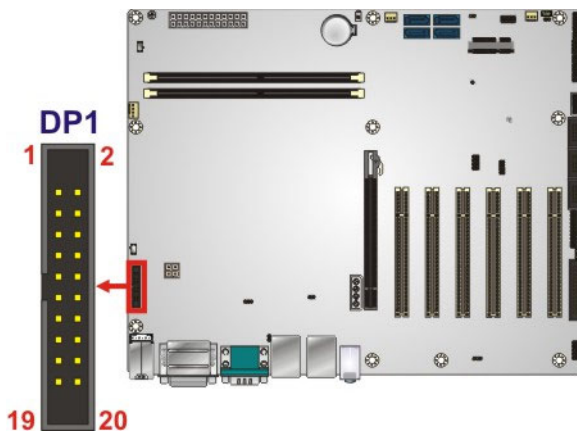

Figure 3-16: Internal DisplayPort Connector Location
- CN Location:** See **Figure 3-16**